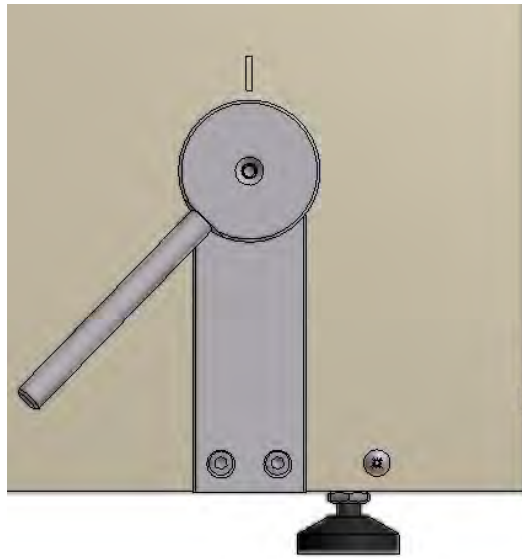
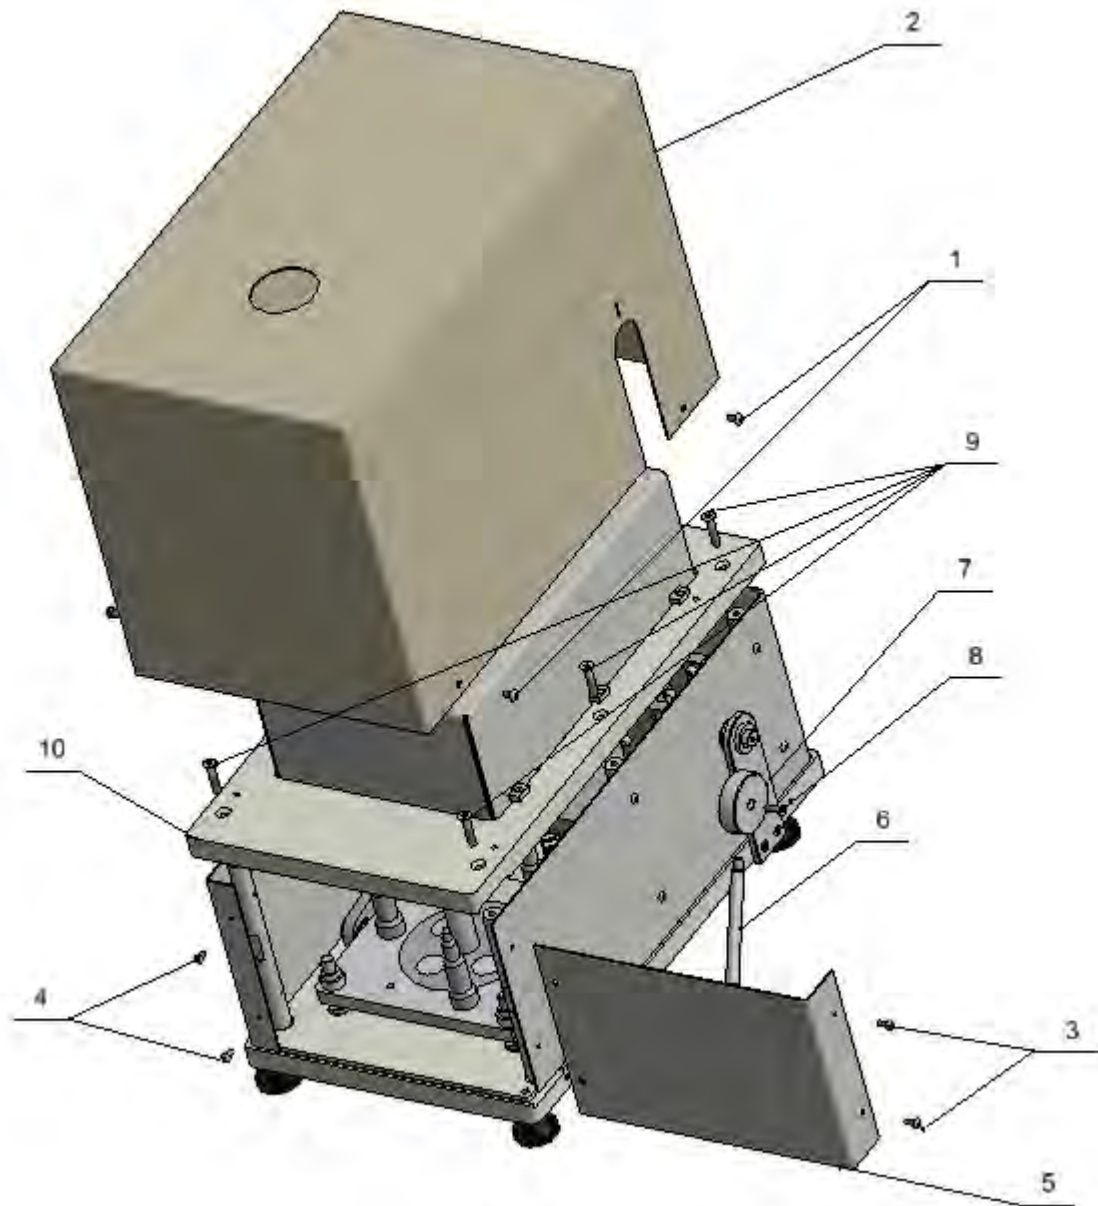

Fig. 2
Fig. 1
4. Slide out the lid assembly for a bottom shield (5). (Fig. 1)
5. Screw lever (6) into a knob (7), next fix the knob to a comparator using M5 screw (8) (Fig.1). The lever should take lower position as presented in Figure 2.
7. Undo six M6 screws (9) (Fig. 1)